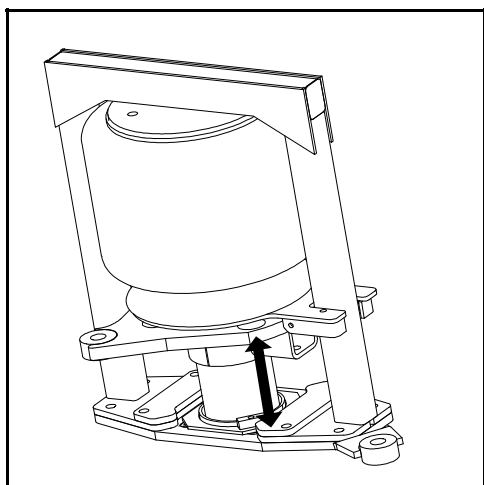

FIG 4.3
5. Place a suitable block under the air bag mounting plate before raising the sprayer (fig. 4.3). This will prevent the suspension from telescoping.